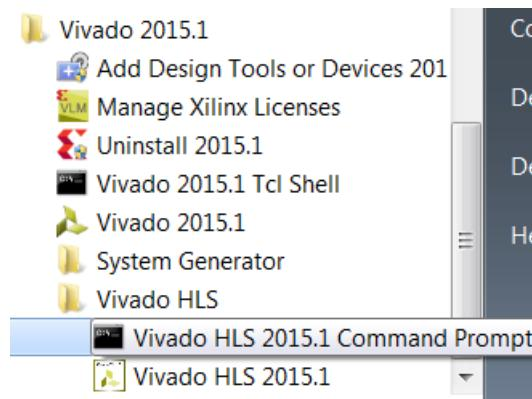

Figure 3-1: Vivado HLS Command Prompt
- On Windows use **Start > All Programs > Xilinx Design Tools > Vivado 2015.1 > Vivado HLS > Vivado HLS 2015.1 Command Prompt** (Figure 3-1).